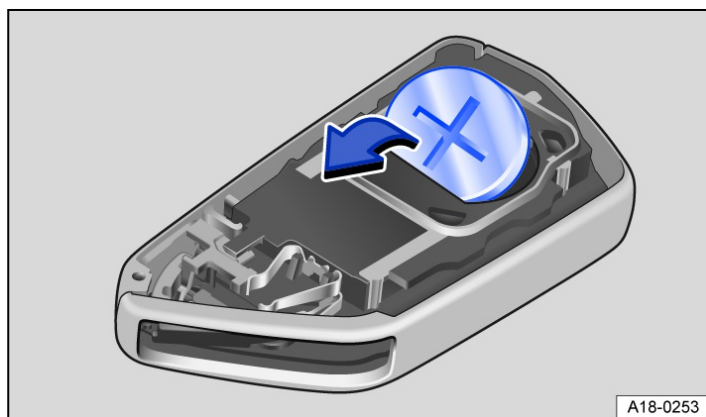

Fig. 2 Vehicle key: replacing the button cell.
3. Lever the button cell out of the battery compartment → Fig. 2.